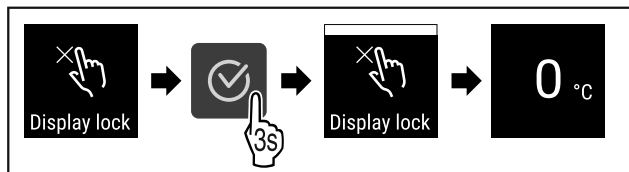

Fig. 76
- ▶ Carry out steps (see Fig. 76) .